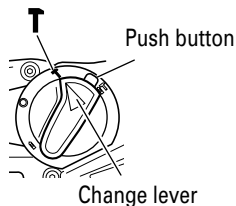

Fig. 20
This rotary hammer can be set to hammering only mode by pressing the push button and turning the change lever to **T** mark. (Fig. 20)
- (3) Turn the change lever to **T** mark. (Fig. 20)